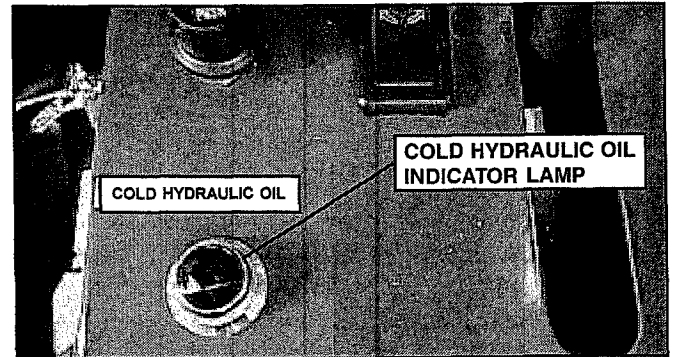

FIGURE 3.16
1. Do not operate machine until the Cold Hydraulic Oil Indicator Lamp is out. See Figure 3.16.